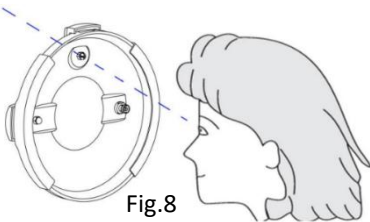

Fig.8
- 1. Before use, make sure that the hole of both safety valve and steam-releasing pipe is unobstructed. If any of them is obstructed, clear them with the dredging needle. (Fig. 8 Observe the steam-releasing is obstructed or not.)